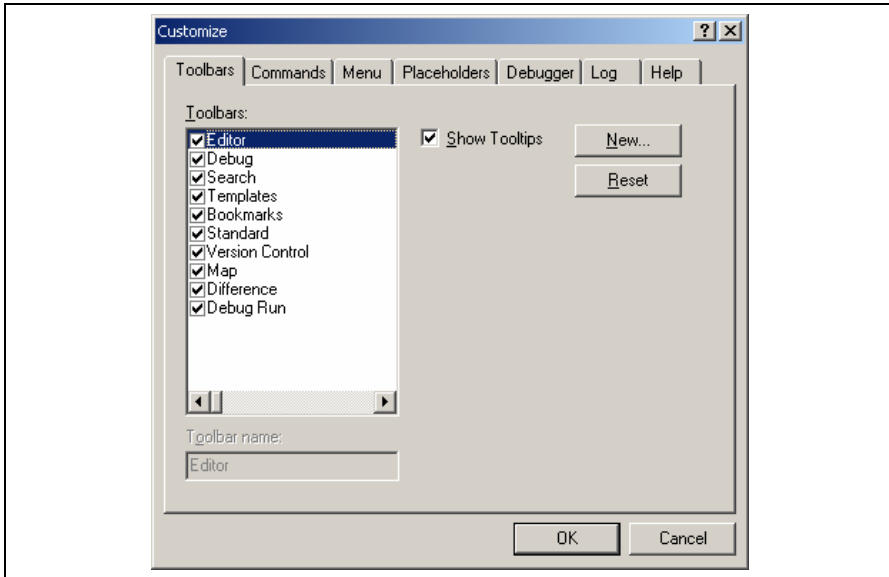
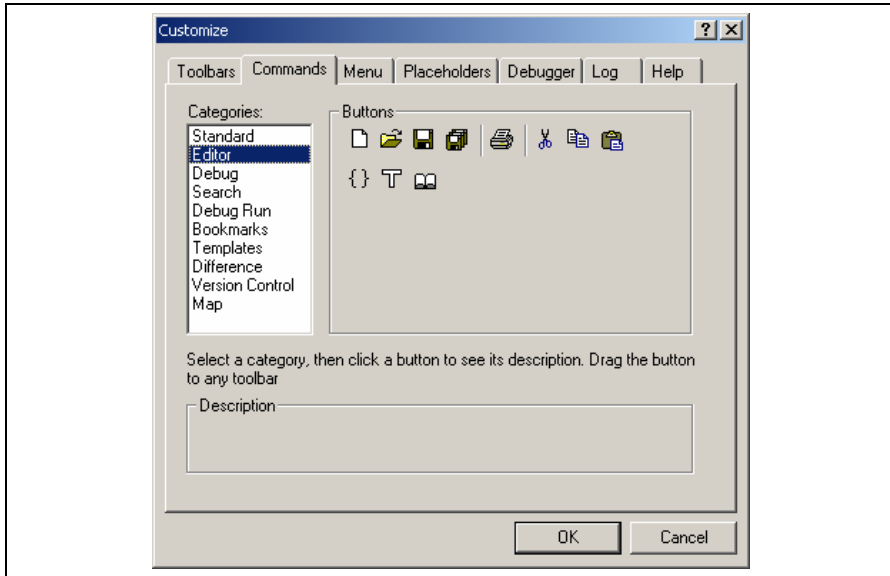
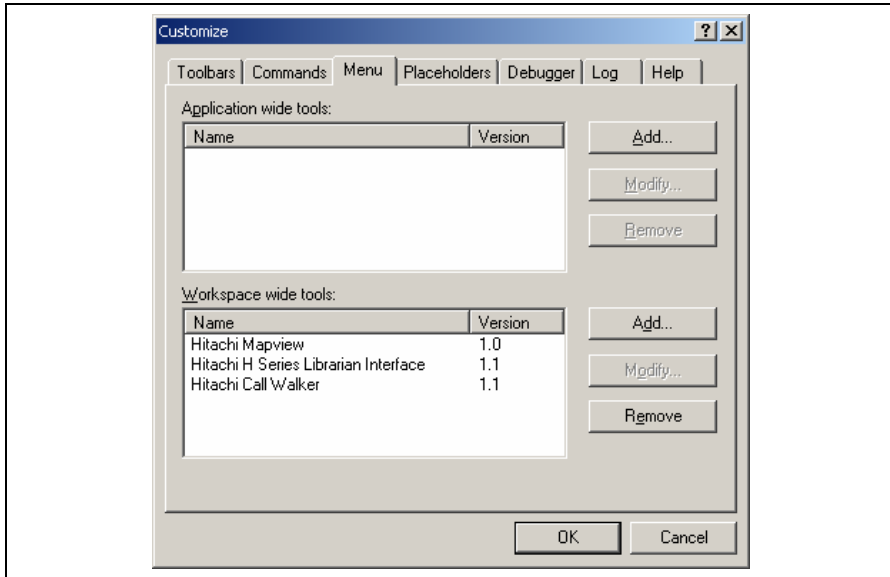
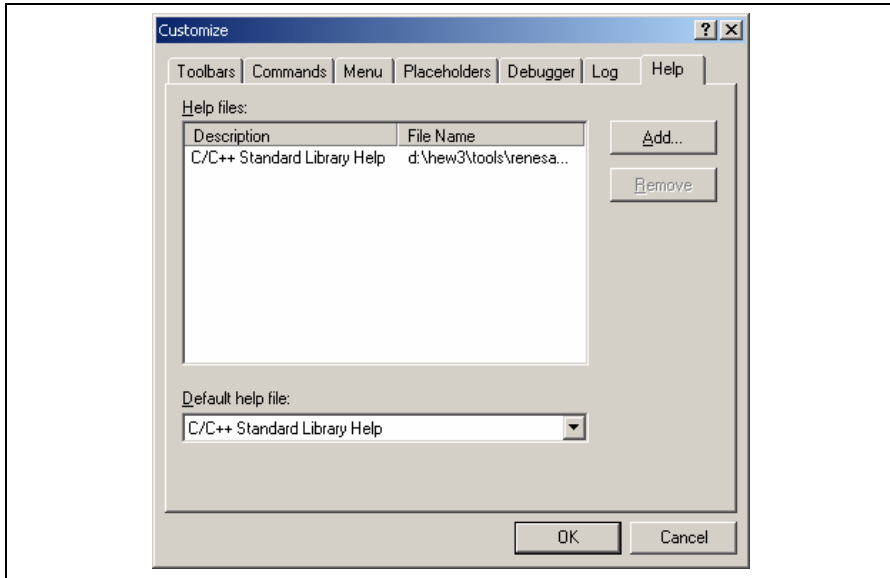

Figure 6.1: Customize Dialog Toolbars Tab
Figure 6.3: Customize Dialog Commands Tab
Figure 6.4: Customize Dialog Menu Tab
Figure 6.7: Customize Dialog Help Tab
The High-performance Embedded Workshop provides 2 standard toolbars as detailed in chapter 1, “Overview”. In addition to these, you may also construct your own toolbars via the “Customize” dialog (figure 6.1).
1. Select [**T**ools->**C**ustomize...]. The dialog shown in figure 6.1 will be displayed.
1. Select [**Tools->Customize...**]. The dialog shown in figure 6.1 will be displayed. Select the “Commands” tab (see figure 6.3).
1. Select [**Tools->Customize...**]. The dialog shown in figure 6.1 will be displayed.
2. Select the user-defined toolbar from the “Toolbars” list, and the “Reset” button in figure 6.1 changes to the “Delete” button. Then click the “Delete” button.
1. Select [**Tools->Customize...**]. The dialog shown in figure 6.1 will be displayed. Select the “Menu” tab (see figure 6.4). The first thing for you to decide is whether you are adding a global application wide tool (“Application wide tools:”), which will be available to all of your workspaces. Or whether you wish to add a workspace wide tool (“Workspace wide tool:”), which is only valid for the current workspace. Once you have made the choice choose the relevant section of the dialog.
1. Select [**Tools->Customize...**]. The dialog shown in figure 6.1 will be displayed. Select the “Menu” tab (see figure 6.4).
1. Select [**Tools->Customize...**]. The dialog shown in figure 6.1 will be displayed. Select the “Help” tab (see figure 6.7).